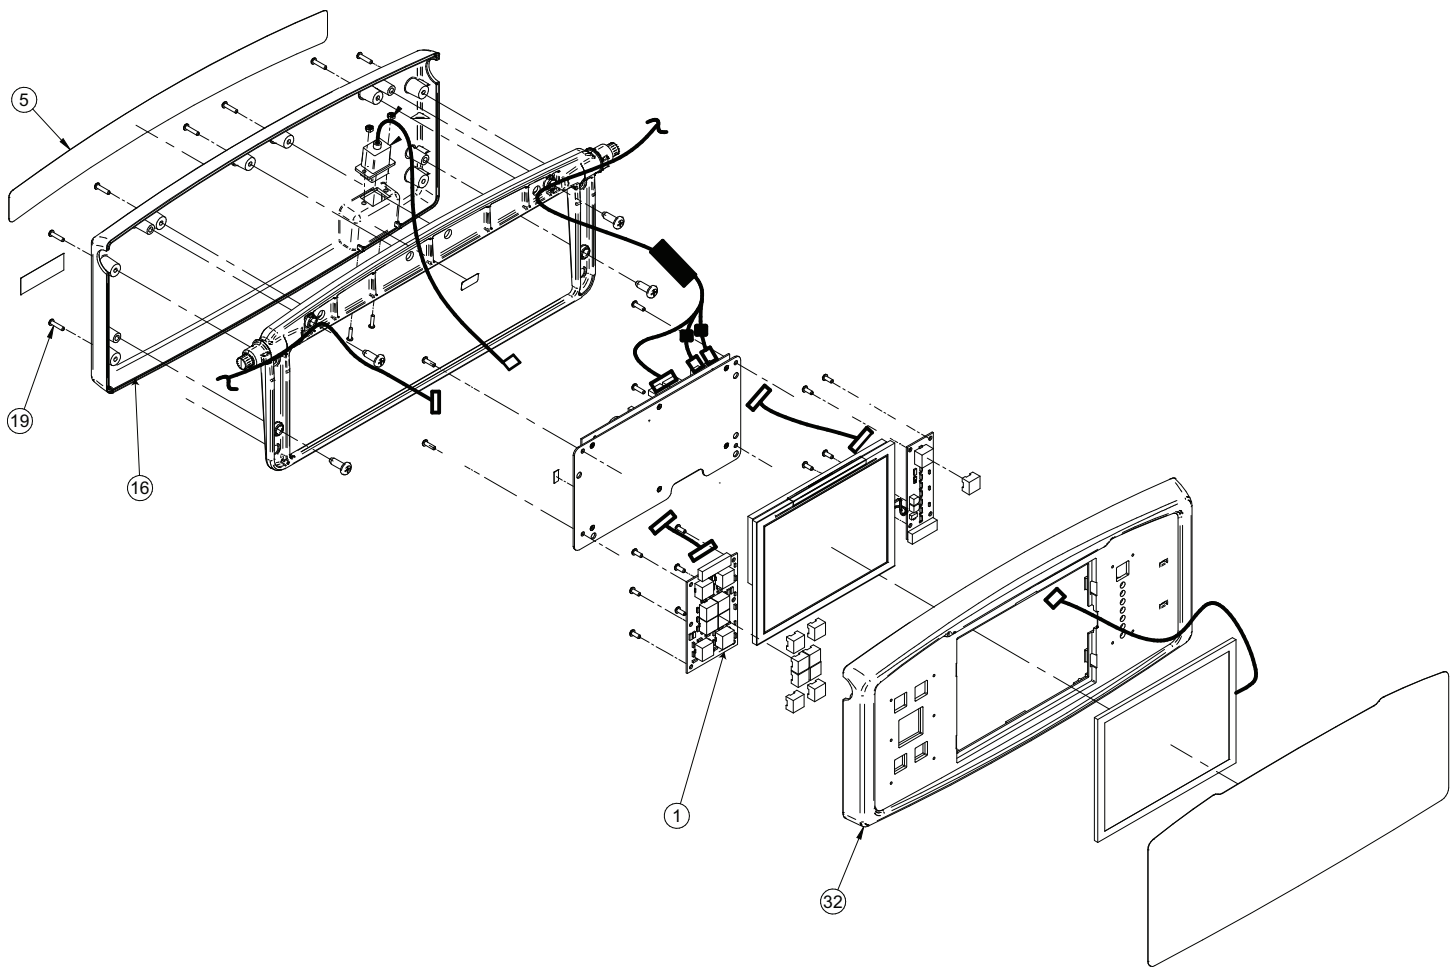

Figure 63 – Footboard assembly
2. Using a small slotted screwdriver, remove the fascia back foot control label (5) (Figure 63).
3. Using a #2 Phillips screwdriver, remove the six screws (19) that secure the front nurse panel (32) to the rear footboard control (16) (Figure 63). Save the screws.
5. Using a #2 Phillips short screwdriver, remove the two screws (19) from the bottom of the front nurse panel (32). Save the screws.
10. Using a #2 Phillips screwdriver, remove six screws that secure the brake control board (1) to the foot nurse panel (32) (Figure 63). Save the screws.